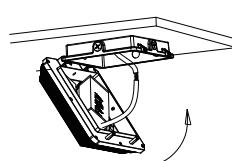

Figure 2-7
7. Turn the radiator up then cover the driver box ; Figure 2-7